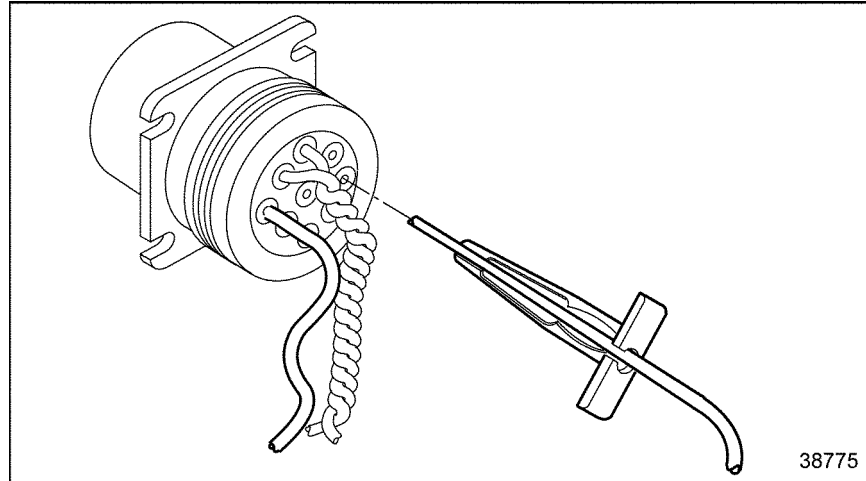

Figure 2-13 Removal Tool Insertion
2. Slide the tool along the cable into the insert cavity until it engages and resistance is felt. Do not twist or insert tool at an angle. See Figure 2-13.